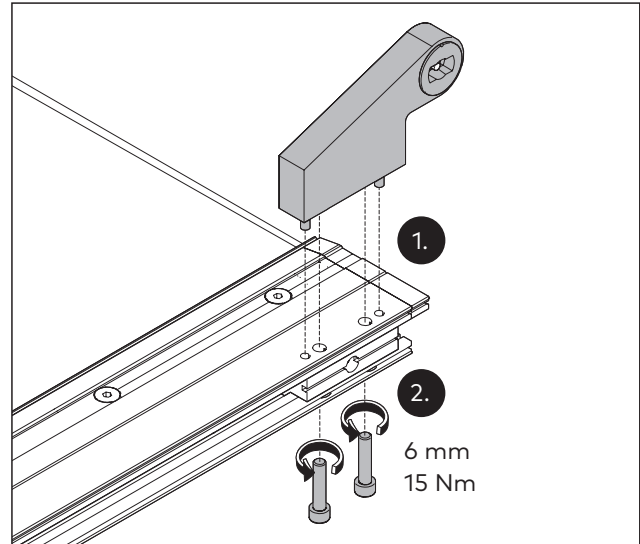
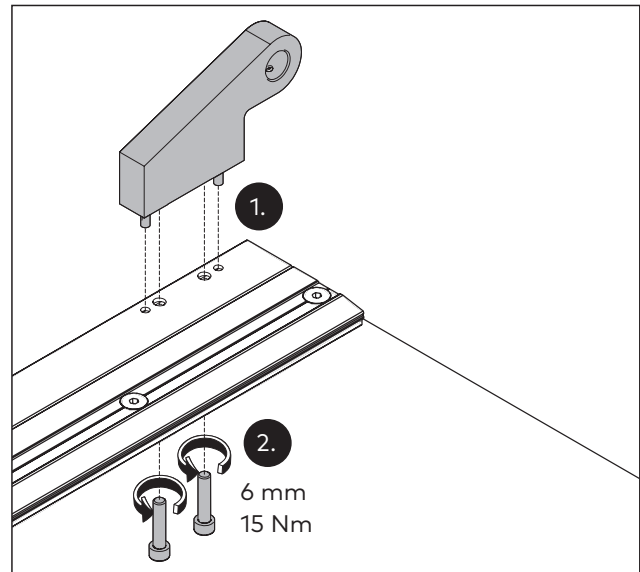

Fig. 15 Mounting the door strap on the bottom door rail
Fig. 16 Mounting the door strap on the top door rail
1. Place the door strap with the pins on the door rail (Fig. 15/1 and Fig. 16/1).
2. Secure the door strap from the other side with the 2 screws through the insert in the door rail (Fig. 15/2 and Fig. 16/2). Note the tightening torque.